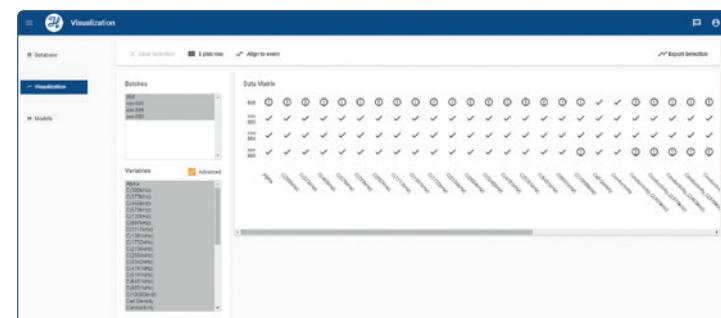

Figure 52: Advanced Data Matrix to display all possible measurements
- 2) Select the advanced variable to display scan variables of the permittivity, or the Cole-Cole parameter: Delta eEpsilon (DeltaESP), characteristic frequency ( $f_c$ ) or alpha (figure 52).